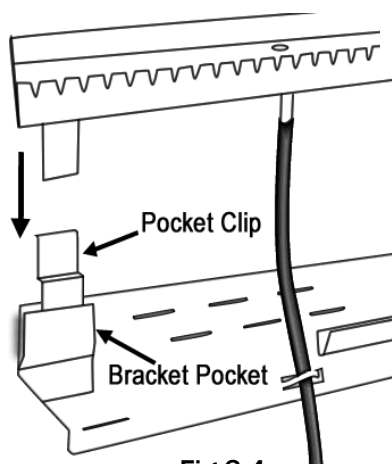

Fig 3.4
The curved end of the Pocket Clip should be up and facing the wall. Next slide the tabs on the disperser (E) behind each Pocket clip (M) so it is holding up the disperser (E) (Fig 3.4); you may need to pull the clip out from the wall to slide the tab behind as it should be a very tight fit. Do not push the disperser (E) all the way down; just enough so that it doesn't fall.
4. Place the vinyl tubing inside the tube clip (Fig 3.4). It should be loose so the tube can slide freely up and down when the disperser is moved.